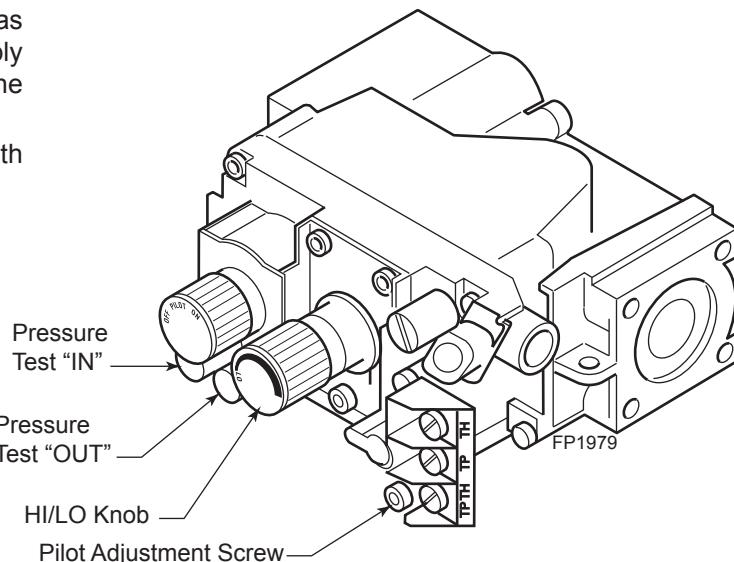

Figure 43 -
5. To check gas pressures at valve, turn captured screw counter clockwise 2 or 3 turns and then place tubing to pressure gauge over test point. Turn unit to high. *Figure 43.* After taking pressure reading, be sure and turn captured screw clockwise firmly to reseal. Do not over torque. Check test points for gas leaks.